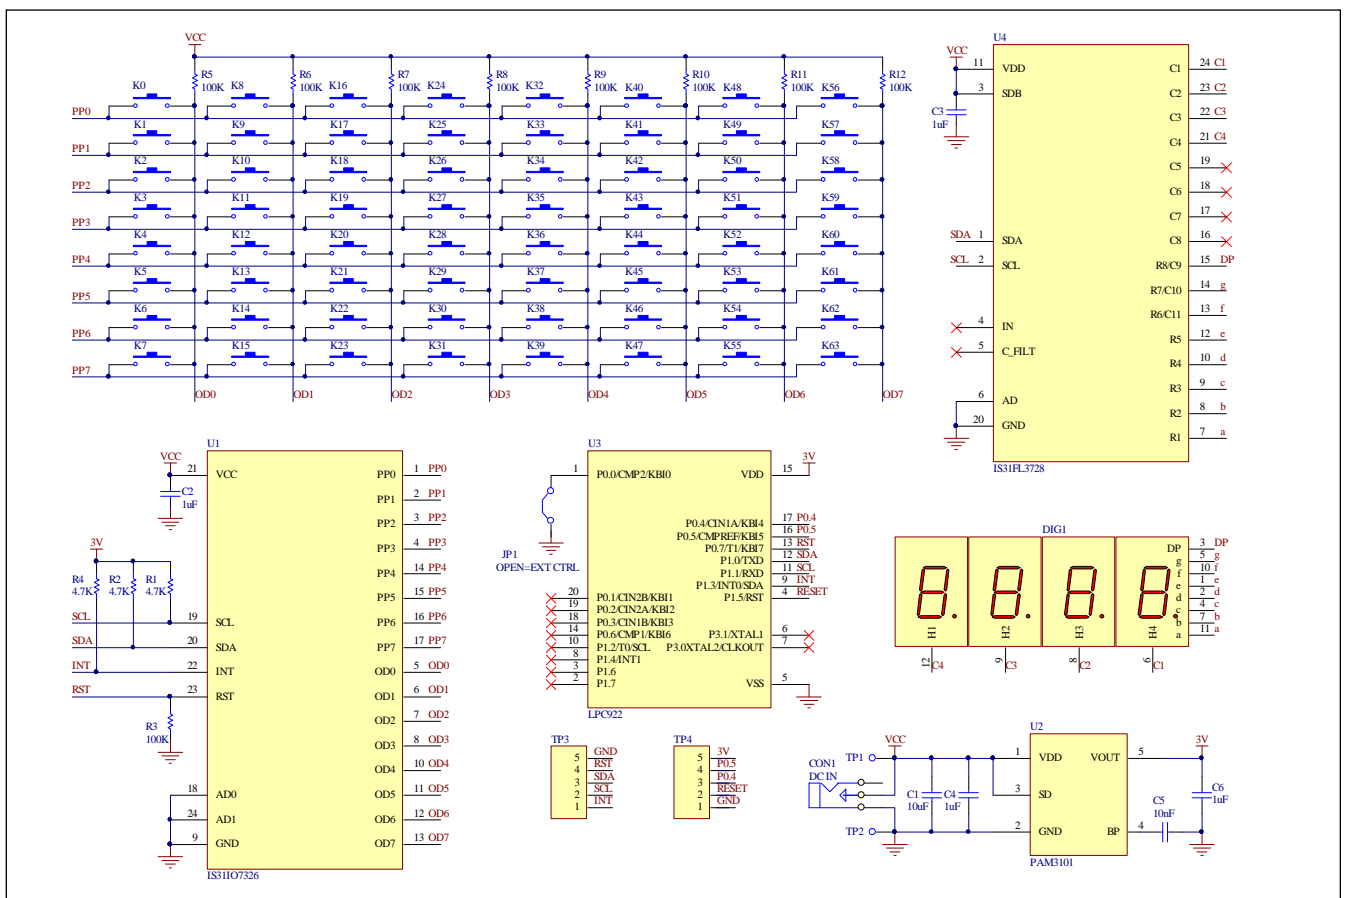

Figure 2: IS31IO7326 Application Schematic
*Table 2: Bill of Materials, refer to Figure 2 above.*